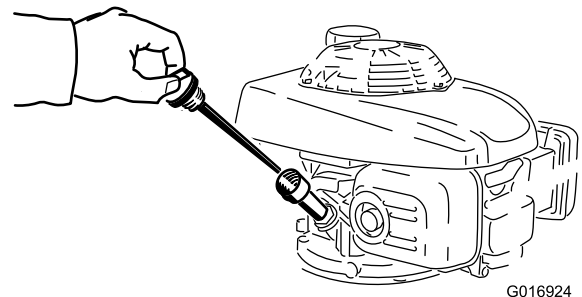

Figure 12
2. Clean around the dipstick (Figure 12).